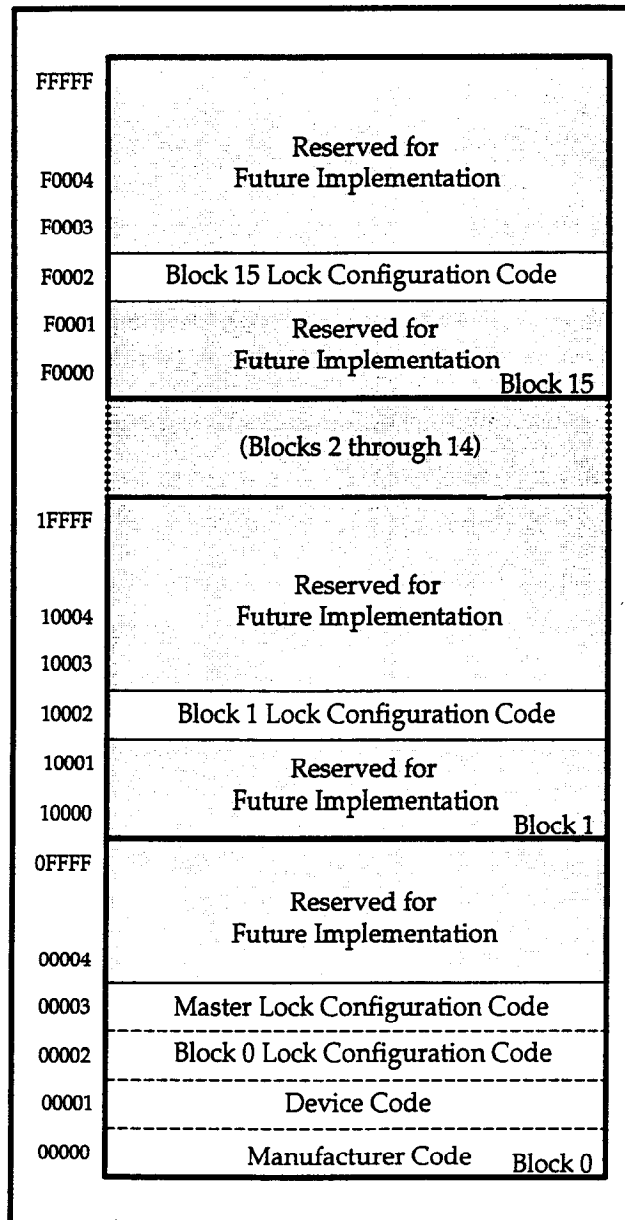

Figure 3. Device Identifier Code Memory Map
The read identifier codes operation outputs the manufacturer code, device code, block lock configuration codes for each block, and the master lock configuration code (see Figure 3). Using the manufacturer and device codes, the system CPU can automatically match the device with its proper algorithms. The block lock and master lock configuration codes identify locked and unlocked blocks and master lock-bit setting.
IA=Identifier Code Address: see Figure 3.
The identifier code operation is initiated by writing the Read Identifier Codes command. Following the command write, read cycles from addresses shown in Figure 3 retrieve the manufacturer, device, block lock configuration and master lock configuration codes (see Table 5 for identifier code values). To terminate the operation, write another valid command. Like the Read Array command, the Read Identifier Codes command functions independently of the V_{PP} voltage and $\overline{RP}$ can be V_{IH} or V_{HH} . Following the Read Identifier Codes command, the following information can be read:
1. X selects the specific block lock configuration code to be read. See Figure 3 for the device identifier code memory map.